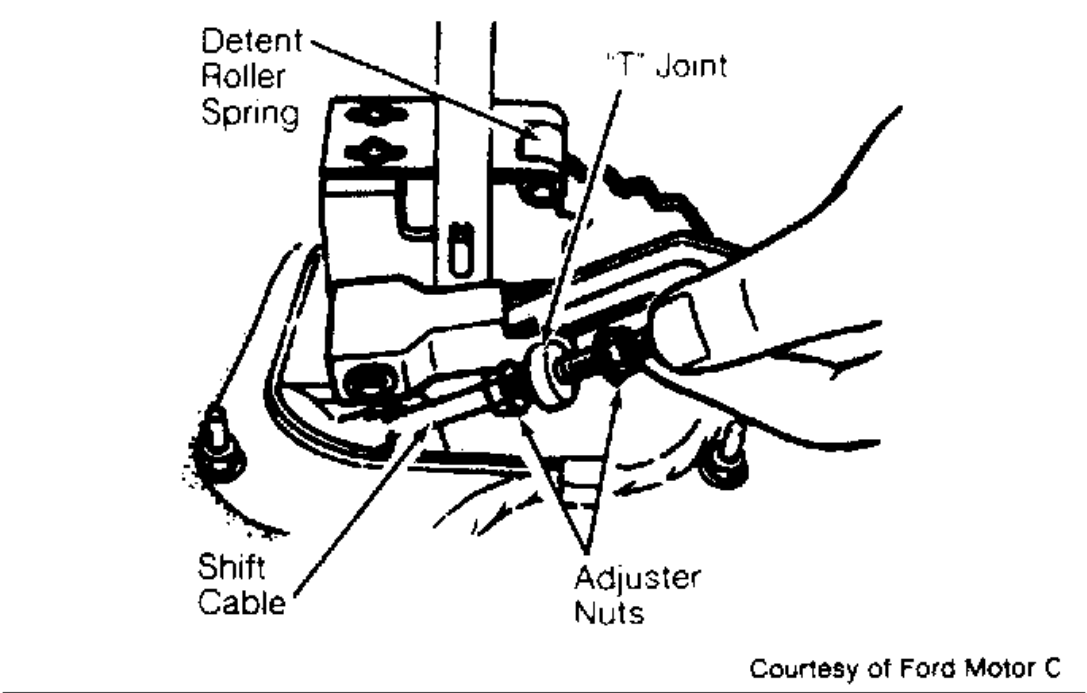

Fig. 1: Adjusting Shift Cable
2. Loosen shift cable adjuster nuts until they reach end of cable threads. See Fig. 1 . Place shift lever in Park. Tighten lower adjustment nut until it lightly touches "T" joint, then tighten upper adjustment nut to 80-97 INCH lbs. (9-11 N.m).